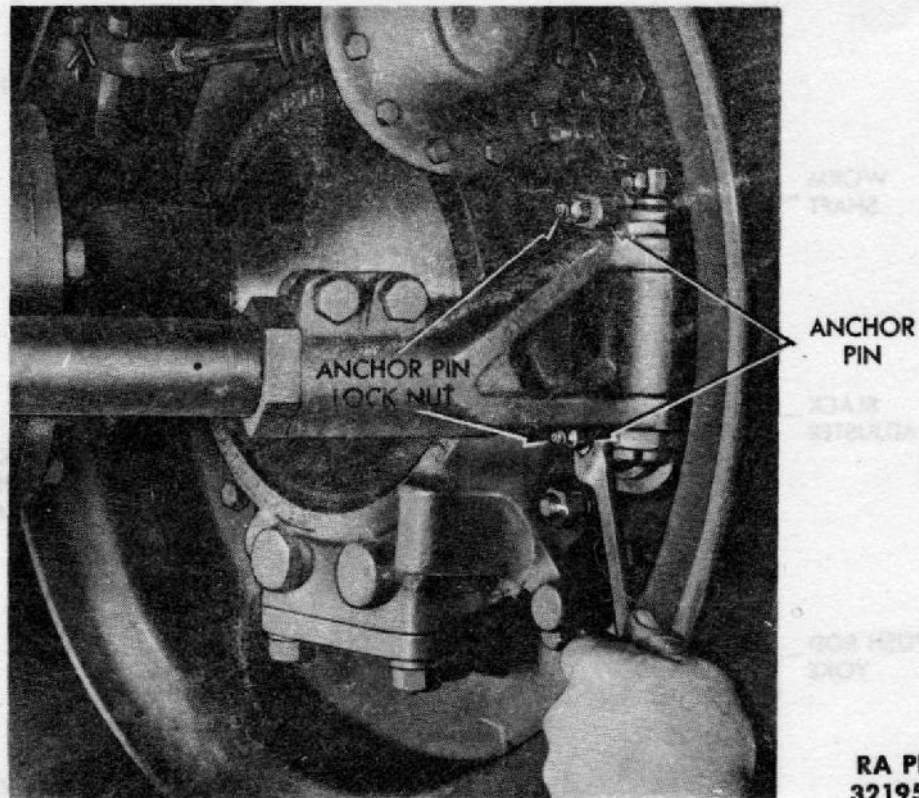

Figure 116 – Adjusting Anchor Pin
(1) **GENERAL.** Adjustment described here concerns chiefly the adjustment made by slack adjusters. Check service brake adjustment every 1,000 miles, or oftener with severe service (step (2), below). First adjustment consists of steps (3), (4), and (5), below; subsequent checks and adjustments normally consist of steps (2), (3), (4), and (6), below.
(2) **CHECK BRAKE ADJUSTMENT.** Measure push rod travel. If this exceeds original measurement (step (5), below) adjust brakes (steps (3), (4), and (6), below).
(3) **ADJUST ANCHOR PINS (FRONT BRAKES ONLY)** (fig. 116). Loosen anchor pin lock nut. Remove inspection hole cover on brake drum. Place 0.008-inch feeler gage through inspection hole under heel of shoe. Turn pin slowly; a barely perceptible drag is felt when gage is moved. Hold anchor pin, and tighten anchor pin lock nut. Recheck clearance, and readjust if necessary. Repeat process to adjust other anchor pin on same wheel. Continue process to adjust anchor pins on other front wheel.
- (1) REMOVE WHEEL AND HUB (par. 167 c).
- (2) LOWER ANCHOR PINS (FRONT WHEELS ONLY) (fig. 116). Loosen anchor pin lock nuts, and turn pin to lowest point.